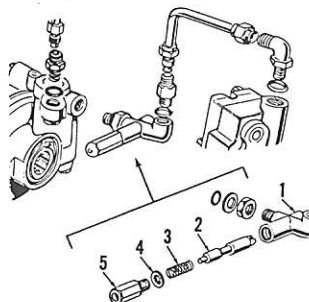

Fig. 259—Exploded view of regulating valve used on IPTO equipped models without Multipower.
234. IPTO REGULATING VALVE. On "Multipower" transmission models, the IPTO regulating valve is combined with the "Multipower" Control Valve and removal procedure is contained in paragraph 189. On models without "Multipower" transmission, the regulating valve is installed in pressure line leading from pump to clutch valve as shown in Fig. 259. To remove or service the valve, remove hydraulic lift cover as outlined in paragraph 247.
236. REGULATING VALVE. Fig. 259 shows an exploded view of IPTO regulating valve used on models without "Multipower" transmission. Plug (5) is strongly spring loaded and should be removed with care if disassembly is attempted. All parts are available individually except valve body (1). If body is damaged, renew valve assembly.